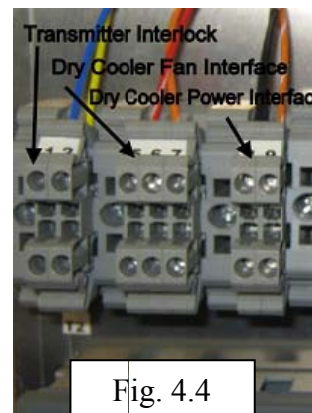

Fig. 4.4
4.7. **Connect Transmitter Interlock.** Fig. 4.4